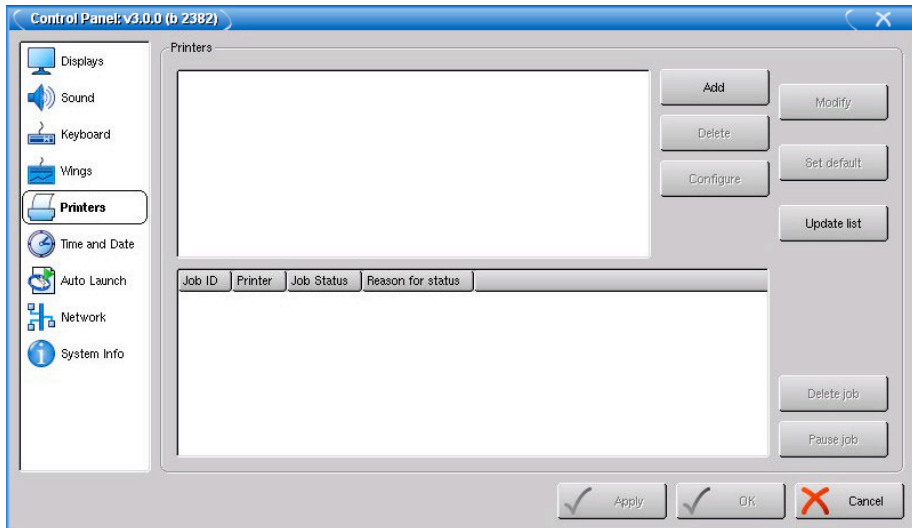

Figure 12.5. The Printers Pane of the Control Panel
1. Setup → Control Panel → Printers : open the Printers pane (see *Figure 12.5*, “*The Printers Pane of the Control Panel*”).
- Setup → Control Panel → Printers : open the Printers pane; see *Figure 12.5, "The Printers Pane of the Control Panel"*.
1. Setup → Control Panel → Printers : open the Printers pane; see *Figure 12.5, "The Printers Pane of the Control Panel"*.